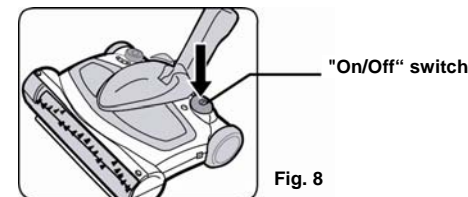

Fig. 8
2. Push the On/Off switch to operate the unit. To turn off, press switch again. (Fig. 8)